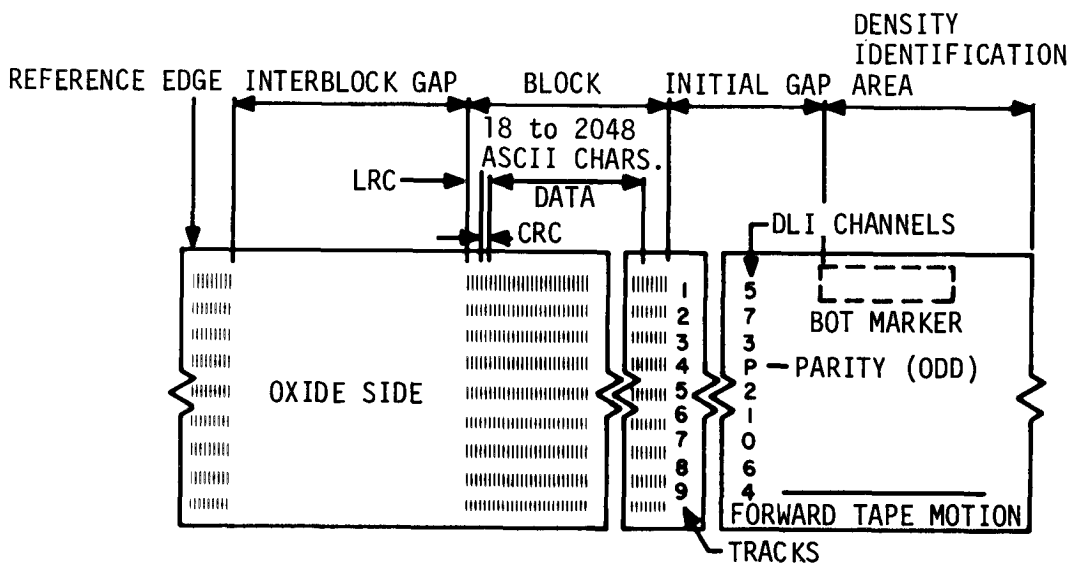
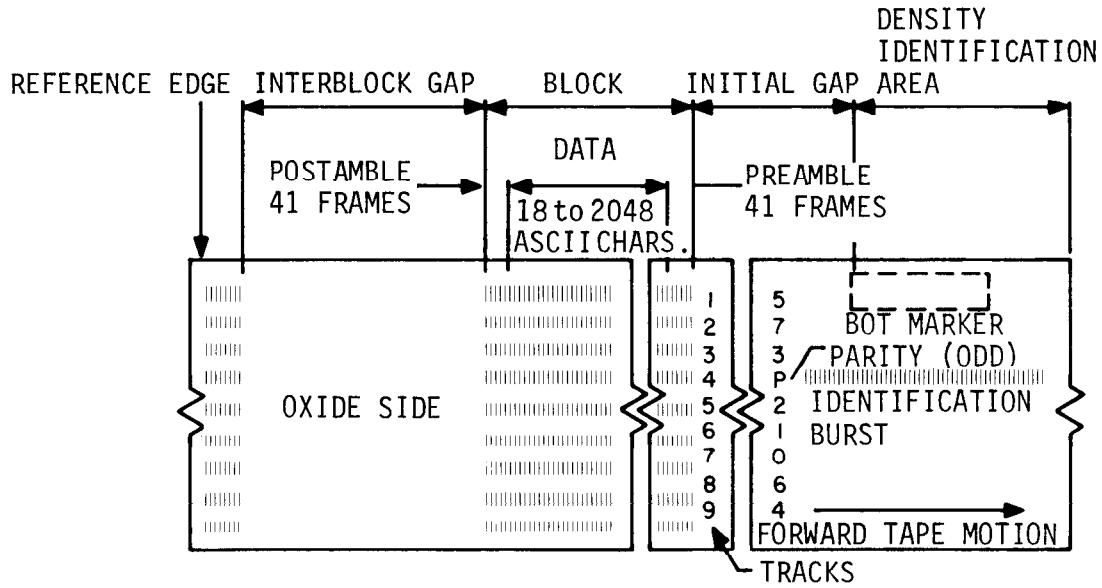

Figure 2-7. NRZI Format
Figure 2-8. PE Recording Format
(4) During normal operations, the data will be recorded and read in nonreturn-to-zero-inverted (NRZI) format (fig. 2-7), or in phase-encoded (PE) format (fig. 2-8).